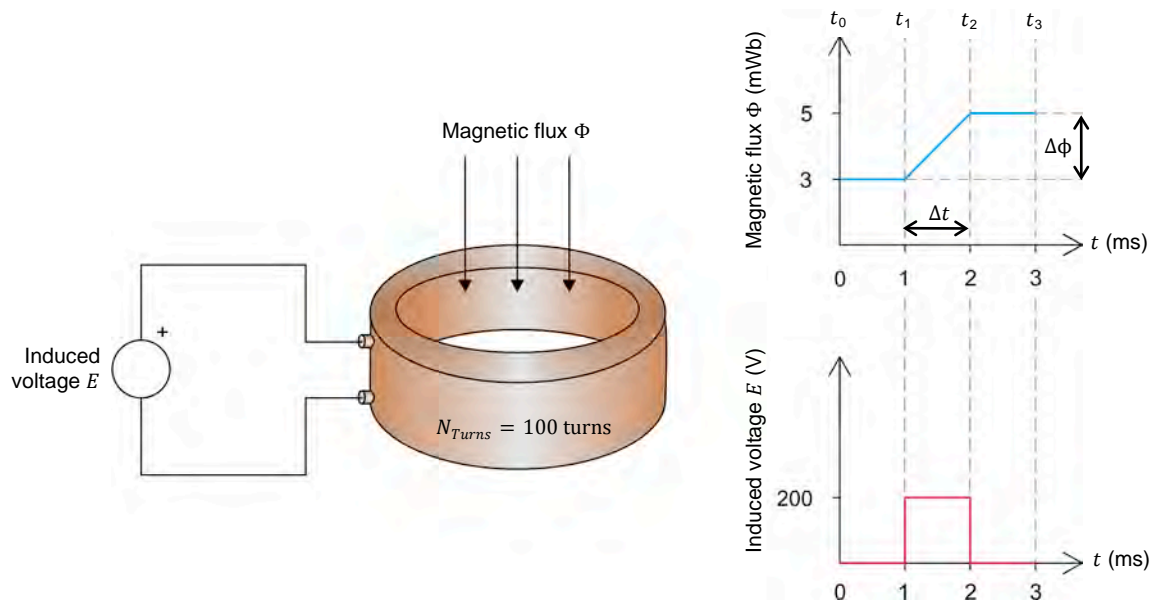

Figure 19. Voltage induced in a loop exposed to a magnetic flux varying in intensity.
Figure 19 gives an example of the voltage induced across a wire loop that is exposed to a magnetic flux varying in intensity. Between instants t_0 and t_1 , the intensity of the magnetic flux ϕ remains constant (3 mWb), and thus, the induced voltage is zero. Between instants t_1 and t_2 , the intensity of the magnetic flux ϕ increases at a constant rate, and thus, a constant voltage is induced in the wire loop. Between instants t_2 and t_3 , the intensity of the magnetic flux ϕ remains constant (5 mWb), and thus, the induced voltage is zero.
Using the values given in Figure 19, the voltage E induced across the coil between instants t_1 and t_2 can be calculated by using Equation (7):